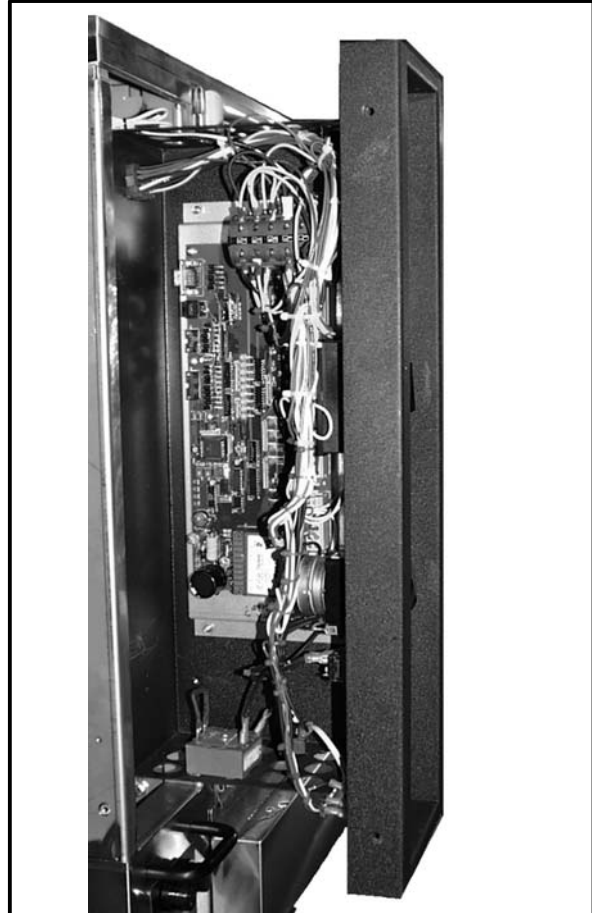

Figure 15
2. Remove (2) screws and slide the control panel forward. See Figure 15.